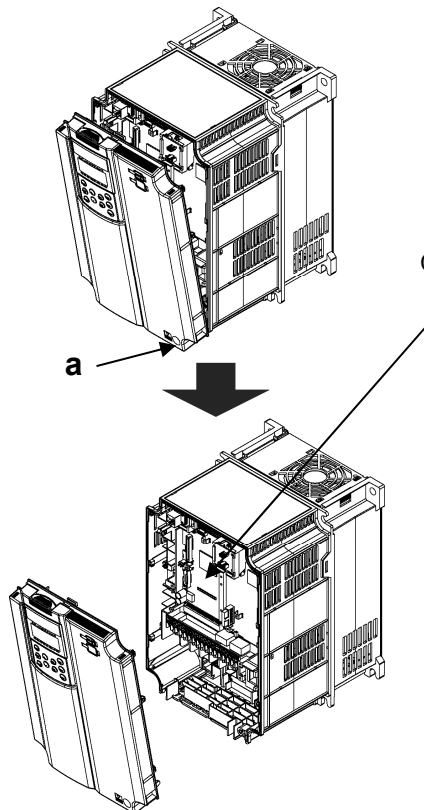

Figure 6.1.2 Removing the Front Cover
As shown in Figure 6.1.2, loosen the one mounting screw on the front cover at location (a) and grip the top of the cover to remove it.
- (1) Attach the three included spacers (d) to the three option mounting fixtures (a) through (c) on the control printed circuit board.
- (2) Install the communications option card so that connector CN1 (on the back of the communications option card) connects to connector A port (CN3) on the control printed circuit board.
- (3) Tighten the three included screws (e) to secure the communications option card in place.
- (4) Referring to Figures 6.1.2 and 6.1.3, "Removing the Front Cover," reverse the procedure to reattach the front cover.
- (2) Install the communications option card so that connector CN1 (on the back of the communications option card) connects to connector B port (CN2) on the control printed circuit board.
- (1) Install the digital 16-bit option, connecting it to the D port (CN10) connector on the control printed circuit board.
- (2) Attach the two screws (a) included with the digital 16-bit option to mounting holes ① and ② on the digital 16-bit option, and attach four spacers (b) to holes ③ through ⑥.
- (3) Attach one spacer (d) included with the communications option card to the option mounting fixture (c) on the control printed circuit board.
- (4) Install the communications option card so that connector CN1 (on the back of the communications option card) connects to A port (CN3) on the control printed circuit board.
- (5) Tighten the three included screws (e) to secure the communications option card in place.
- (6) Referring to Figures 6.1.2 and 6.1.3, "Removing the Front Cover," reverse the procedure to reattach the front cover.
- (4) Install the communications option card so that connector CN1 (on the back of the communications option card) connects to B port (CN2) on the control printed circuit board.
- (2) Install the digital option card so that connector CN1 (on the back of the digital option card) connects to A port (CN3) on the control printed circuit board.
- (3) Connect the power supply harness running from the top of the digital option card to CN25 on the control printed circuit board.
- (4) Tighten the three included screws (e) to secure the digital option card in place.
- (5) Referring to Figures 6.1.2 and 6.1.3, "Removing the Front Cover," reverse the procedure to reattach the front cover.
- (2) Install the digital option card so that connector CN1 (on the back of the digital option card) connects to B port (CN2) on the control printed circuit board.
- (3) Connect the power supply harness running from the top of the digital option card to CN24 on the control printed circuit board. For OPC-VG1-SPGT, connect the harness to CN12.
- (3) Attach one spacer (d) included with the digital option card to the option mounting fixture (c) on the control printed circuit board.
- (4) Install the digital option card so that connector CN1 (on the back of the digital option card) connects to A port (CN3) on the control printed circuit board.
- (5) Connect the power supply harness running from the top of the digital option card to CN25 on the control printed circuit board.
- (6) Tighten the three included screws (e) to secure the digital option card in place.
- (7) Referring to Figures 6.1.2 and 6.1.3, "Removing the Front Cover," reverse the procedure to reattach the front cover.